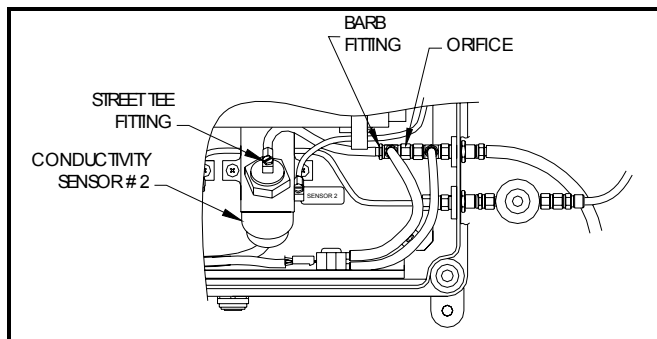

Figure 13. Location of Orifice
4. Using a wrench supplied in tool kit (58091520), loosen and remove street tee fitting from the top of Conductivity Sensor 2 as indicated in Figure 13.